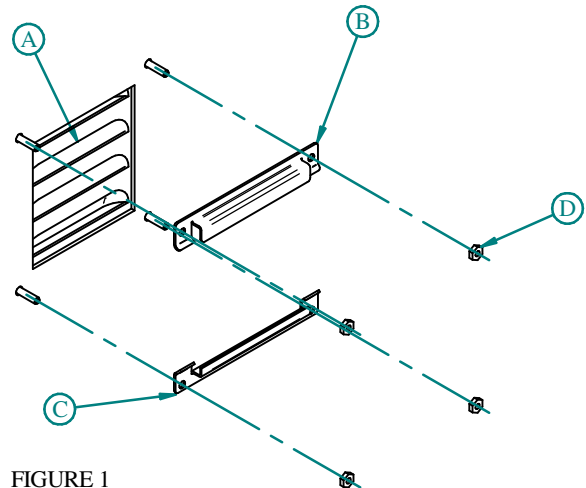

FIGURE 1
-Fit the louver plate (A) to the outside of the enclosure, exposing the mounting studs inside as shown in Figure 1
-Install the upper (B) and lower (C) filter brackets over the studs, and secure with the supplied kep nuts (D).